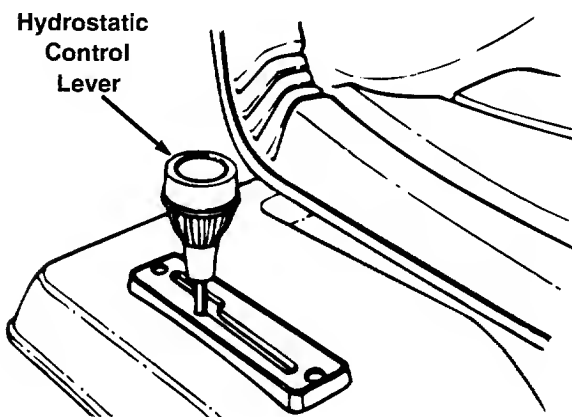

Figure 13
The hydrostatic control lever is located on top of the fender on the right side of the tractor. This single control lever, connected to the hydrostatic transmission, controls both the speed and direction of the tractor. Infinite speed control is achieved by moving the control lever forward or backward. The farther forward or backward you move the control lever, the faster you will travel. Pulling the control lever into neutral (N) area will stop the tractor. See Figure 13.